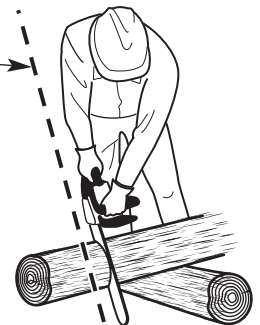

Fig. 8
- Use these hand placements whether the operator is left-handed or right-handed. This will help keep the operator slightly to the left of the unit and out of the direct line of the chain saw if kickback occurs (Fig. 8 and Fig. 9).